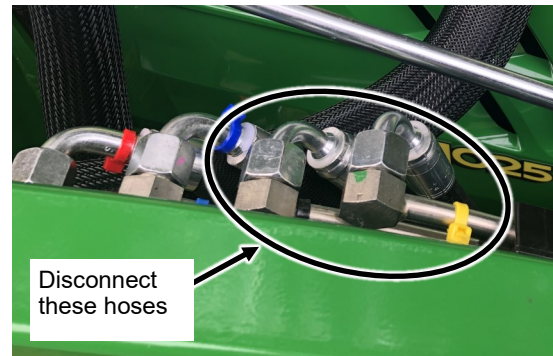

Fig. 3 (Remove Dump/Curl Hoses from Hardlines)
3. Locate the two curl cylinder hose connections from the loader **hard lines**. These should be the connections marked with black and yellow zip ties. See Fig. 3